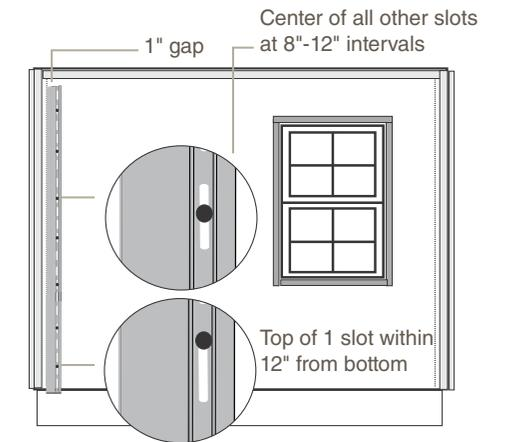

Fig. 12
- The length of the panel should be 1" from the top furring and a minimum of 1/2" over the foundation at the bottom (Fig. 12).